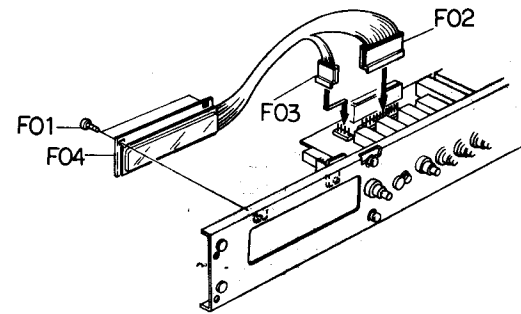

Fig. 7.3
Refer to Fig. 7.3. Remove Front Panel and Case Covers referring to item 7.1. Remove F01, F02 and F03, then F04 (Display Ass'y).